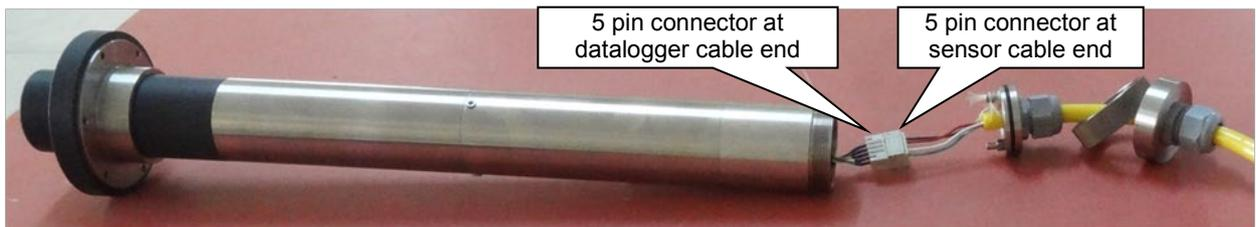

Figure 8-16: Datalogger to sensor cable assembly
8.7.21 Re-check the complete assembly. The sensor side assembly will look like figure 8-15 and wiring as shown in figure 8-16.